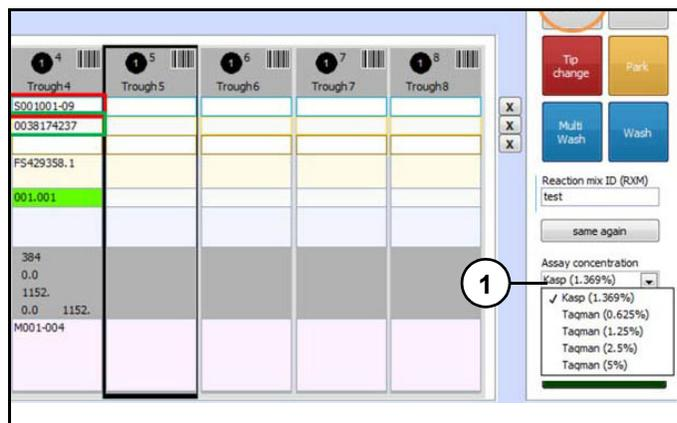

Figure 40
- Select "Assay concentration" (1) (Figure 40) to be used in reagent mix.